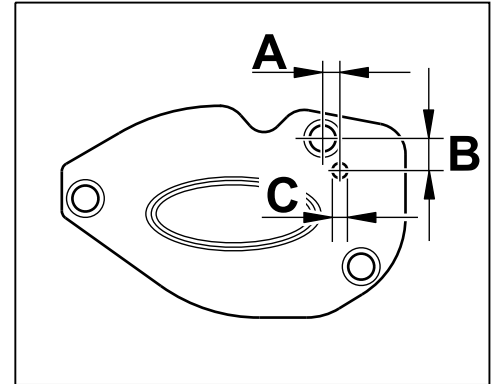

Figure 10
- 2.3.1 Drill the bore hole on the heat shield on the engine carrier according to the dimensions shown in  $\Rightarrow$  *Figure 10*.